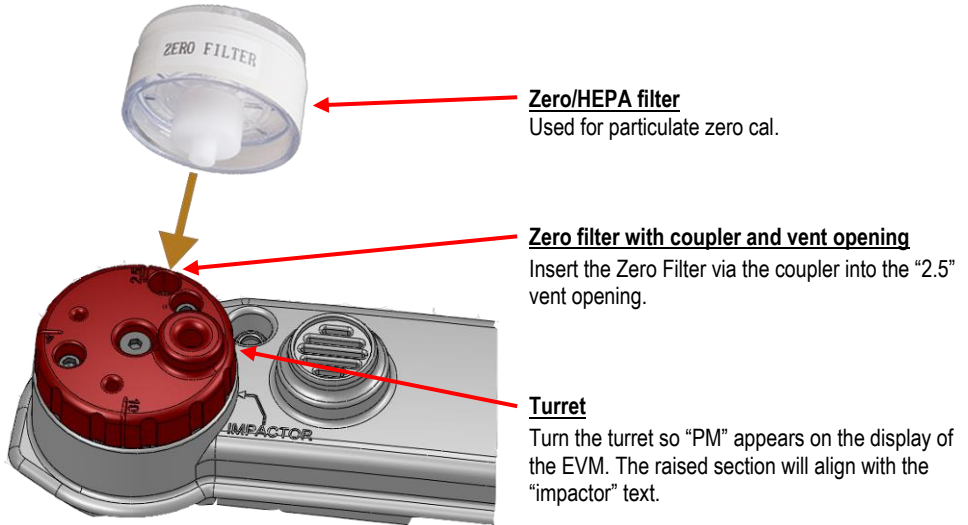

Figure 4-6: Particulate zero cal with HEPA filter
2. Adjust the turret/impactor to **PM** (refer to “Turret” in Figure 4-6).